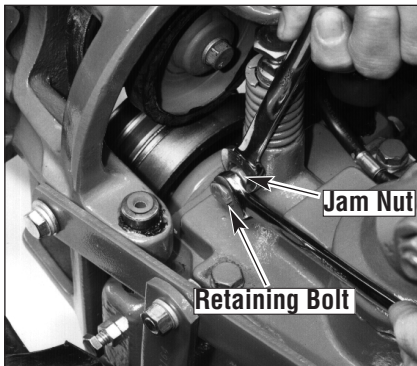

Figure 5-27: Hold bolt steady while loosening or tightening jam nut.
2. On left side of tiller, put a 1/2" wrench on the plunger retaining bolt and another 1/2" wrench on the jam nut next to it (Figure 5-27). While holding the bolt steady, loosen the jam nut (counterclockwise) until it touches the bolt head.
8. Hold the plunger retaining bolt steady with a wrench while tightening the jam nut against the side of the plunger housing (Figure 5-27).